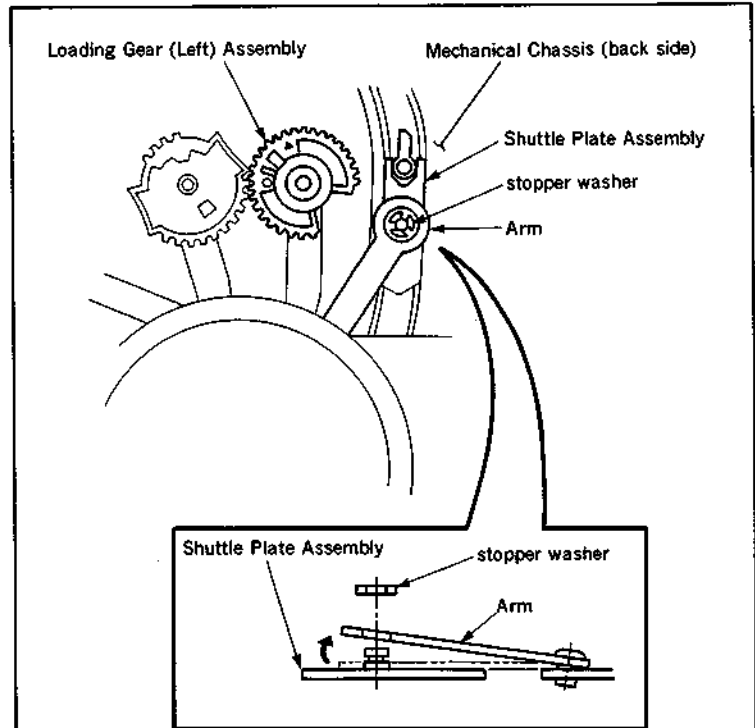

Fig. 1
- (1) Remove the cassette compartment according to sub-section 4-2.
- (2) Remove the stopper washer, then remove the arm of the loading gear (left) ass'y from the shaft of the shuttle plate ass'y. (Fig. 1)